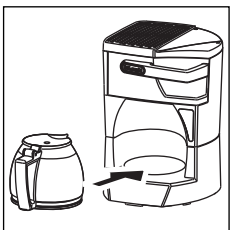
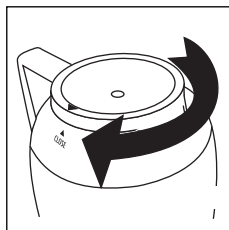

fig. 5
fig. 6
- Close the lid and place the jug on the plate (fig. 5). **Models with thermal jug:** Before placing the jug on the plate, make sure the lid is closed (fig. 6).